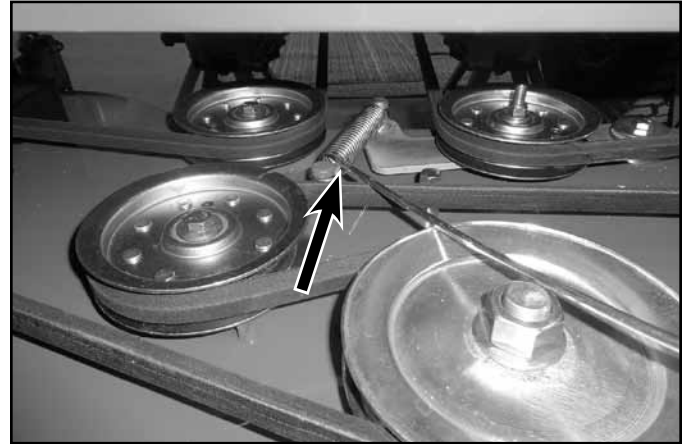

Fig. 090
5. Lift the floor pan upward into service position to gain access to the belt tensioner / idler pulley. Using a spring tool, (Toro part no. 92-5771), remove the PTO belt tensioner / idler spring from the deck post to remove tension on the idler pulley (Fig. 090).